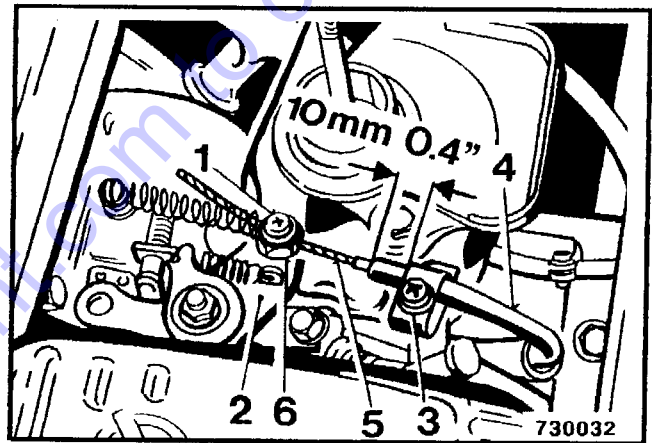

Fig. 3
- Set the adjustment measurement 6 (Fig. 3) roughly.
- Push the control rod (4) upwards (arrow) to "full speed" position.
- Push the throttle cable onto the control leverage (5), so that the fork type receptacle (3) is between both set-nuts (2).
- Turn the setnuts until the pin of the throttle cable head (1) is flush with the bore in the control lever (5).